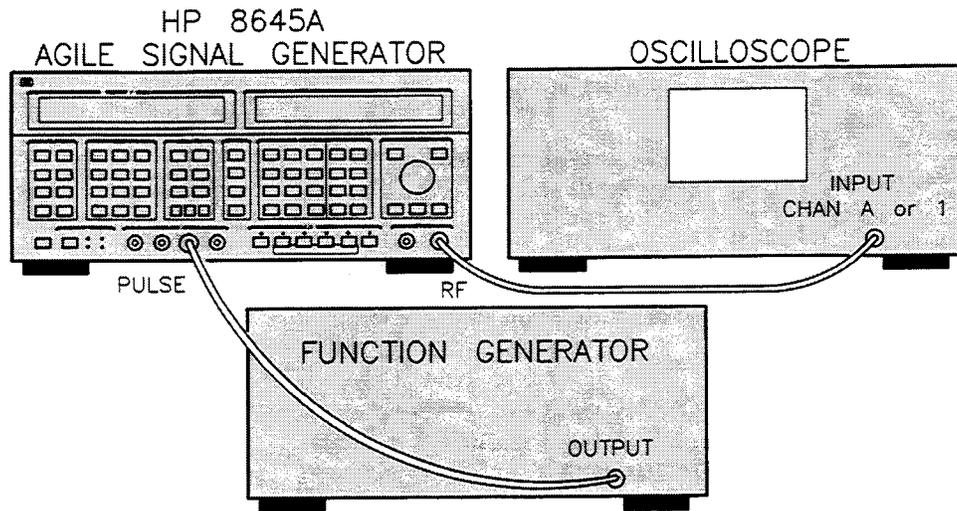

Figure 2-7. Equipment Setup for Pulse Modulation Procedure.
1. Connect the HP 8645A to the Oscilloscope and Function Generator as shown in figure 2-7. Turn on the equipment and make the following adjustments: